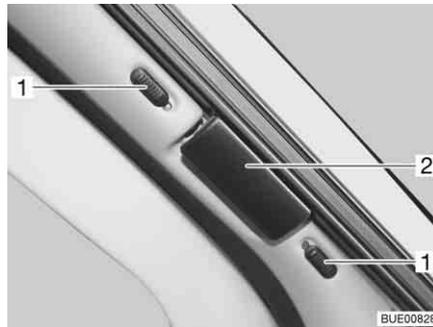

Fig. 21 Roman shade for the windscreen
- Use the handle (Fig. 21,2) to pull the two halves of the Roman shade for the windscreen outwards as far as they will go.
- Push the locking knobs (Fig. 21,1) upward or downward. If the red dot is visible, the lock is open.